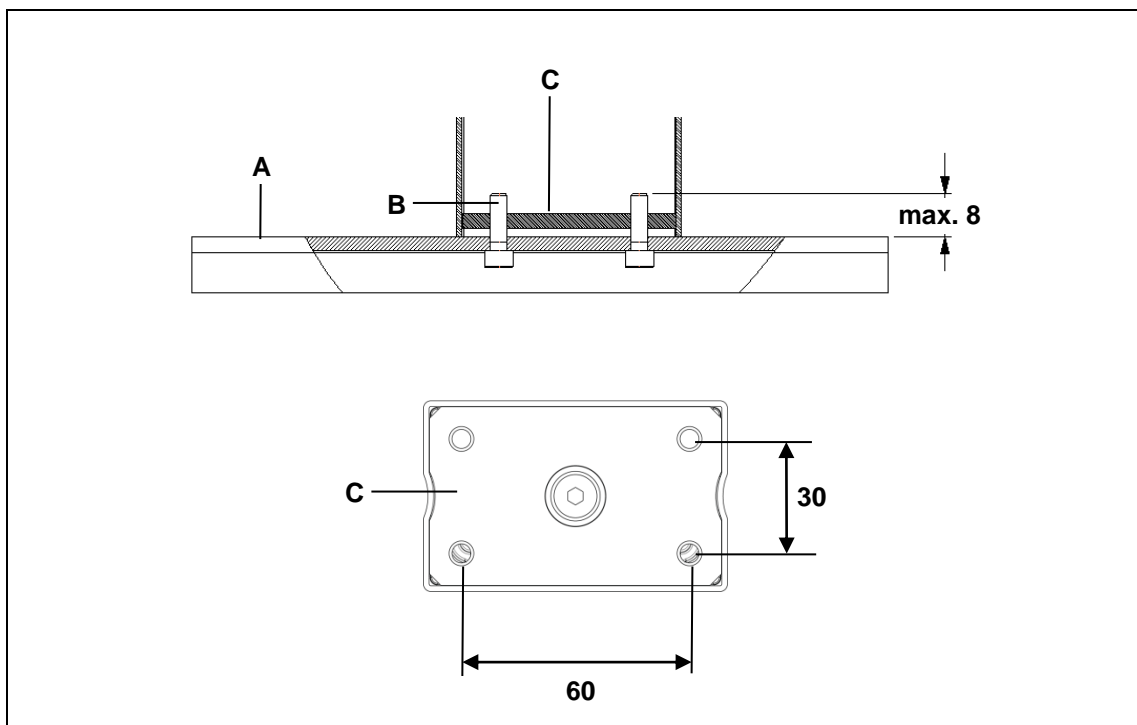
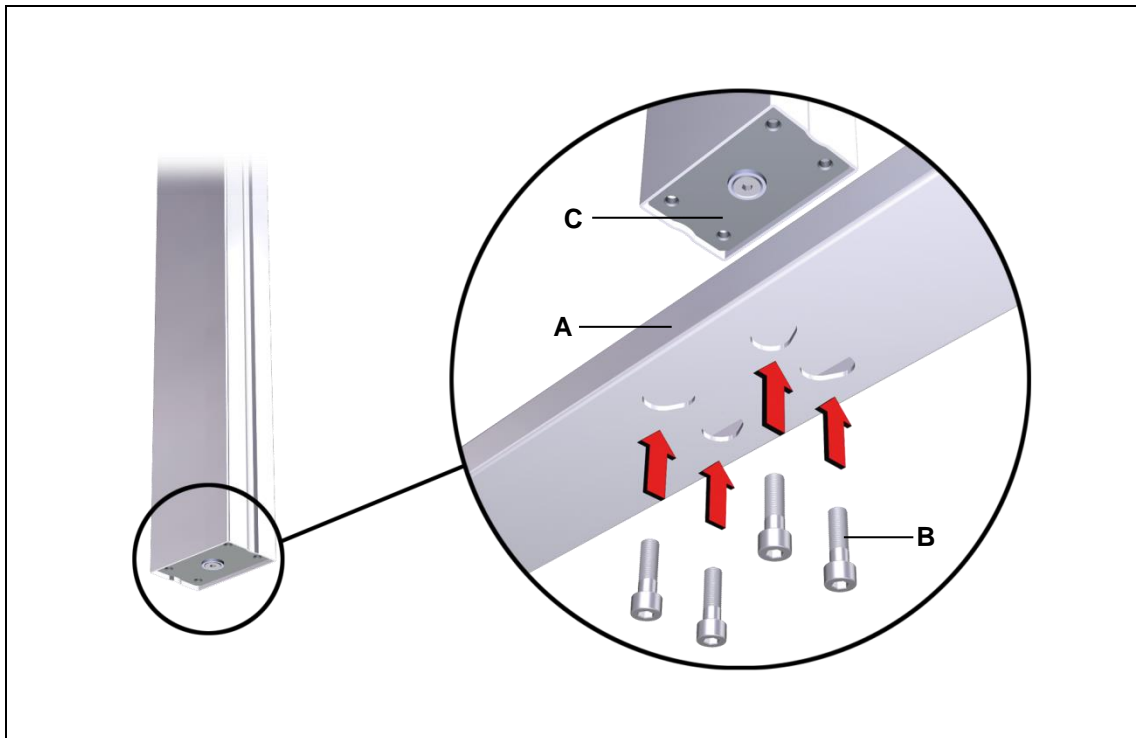

Figure 7 Mounting the desk base: (in mm)
Figure 8 Mounting the desk base
- ▶ Use M6 screws (grade 8.8), as shown in Figure 7. The tightening torque must not exceed 10 Nm.
- 1 Use four screws to attach the desk base to the foot end of the ID21 lifting column, as shown in Figure 8 (tightening torque is 10 Nm). The mounting dimensions are shown in Figure 7.